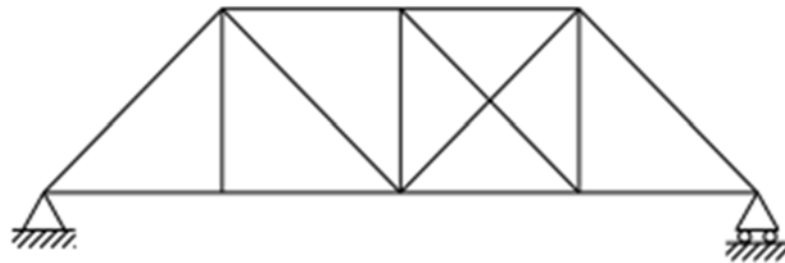

Fig.5
b) Find static indeterminacy and kinematic indeterminacy of the given structure. See fig5.